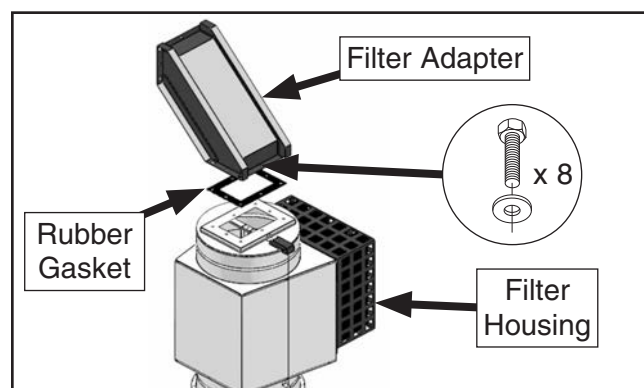

Figure 17. Attaching filter adapter to filter housing.
17. Attach rubber gasket to top of HEPA filter housing (see **Figure 17**), then secure filter adapter to housing using (8) $\frac{5}{16}$ "-18 x 1" hex bolts and (8) $\frac{5}{16}$ " flat washers.